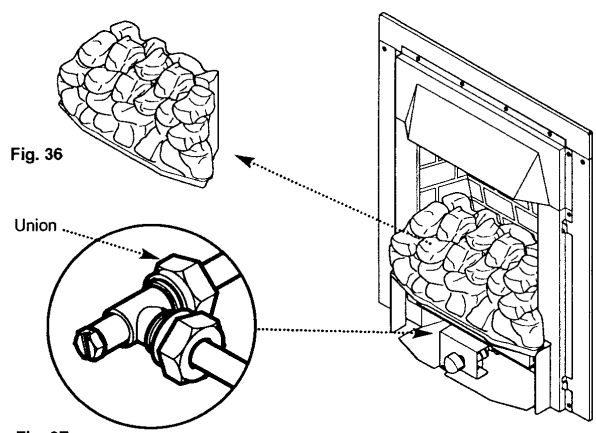

Fig. 37
5. Undo the disconnecting union on the gas supply (Fig. 37).